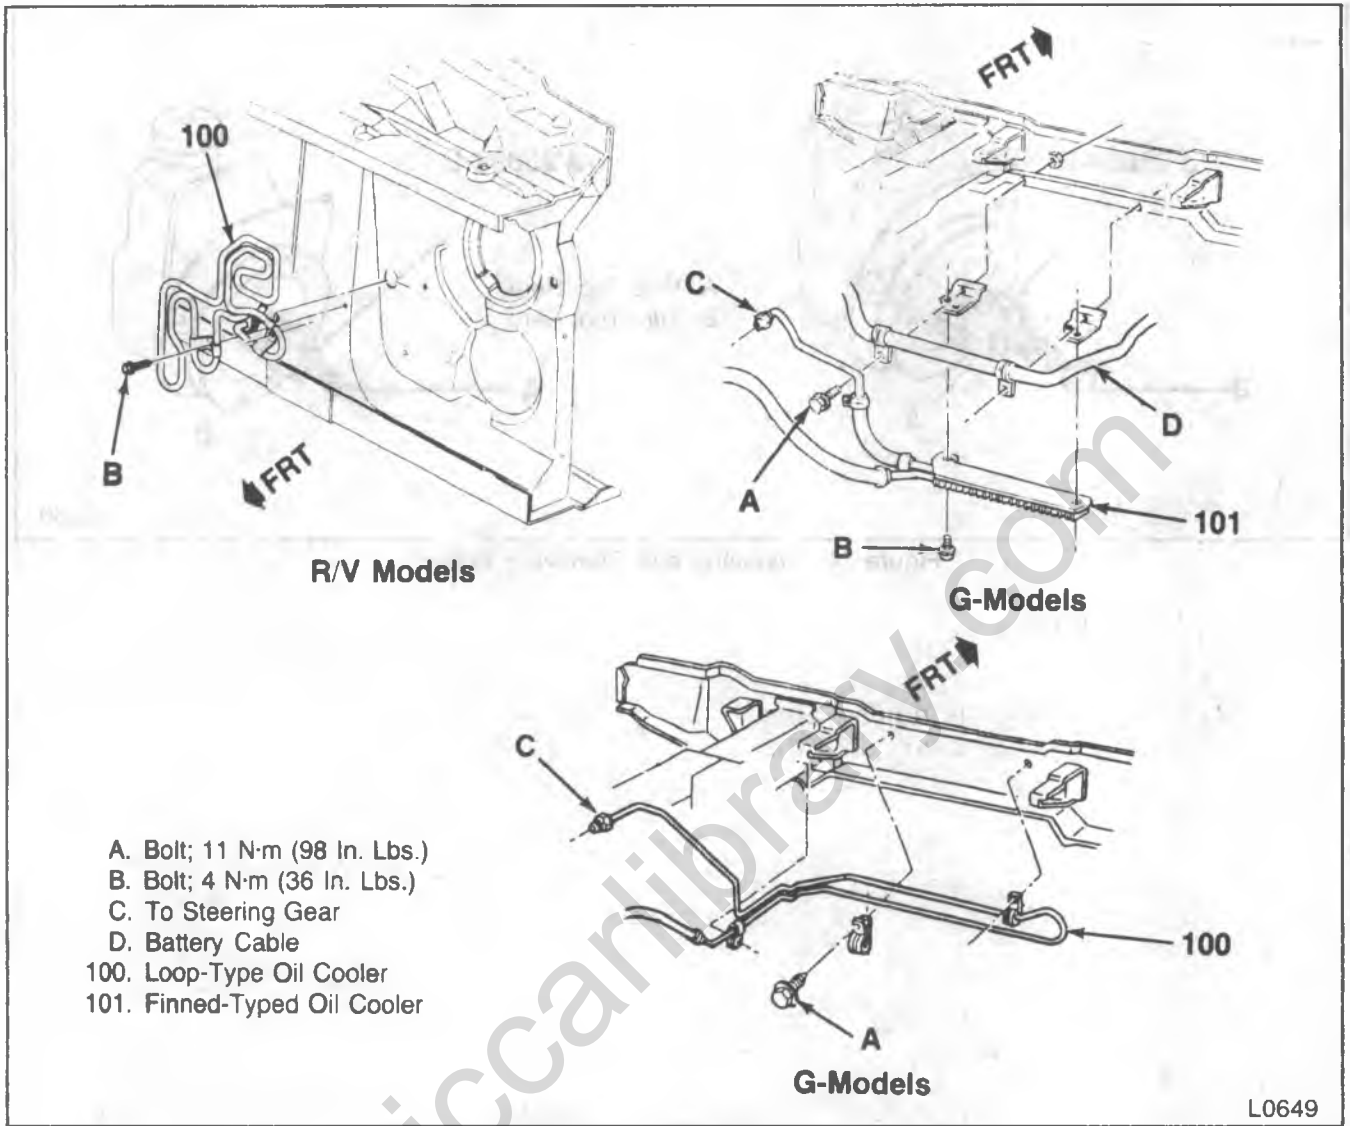

Figure 35—Power Steering Oil Coolers
Some models are equipped with power steering system oil coolers. Two types of coolers are used: tubular loop-type and finned-type (figure 35).
↔ Remove or Disconnect (Figure 35)
- Bolts to specifications shown on figure 35.